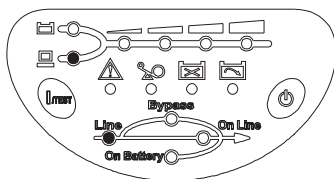

Fig 3-1 Stand-By Mode
- After that, the fan (in rear panel) will run and all LEDs will light for about 2-3 sec. Meanwhile the CPU inside the UPS setups the initial parameters. User also can check whether all LEDs are normal or not. The UPS is set in "STANDBY mode" initially, after a 'bee' is heard, the load LED lights on and the line LED shows AC utility status. Shown as fig 3-1.
The UPS will keep charging when UPS is in “STANDBY mode” even though the 0 button has been pressed. To fully turn off the UPS, it is advised to unplug the power cord. Refer to fig 3-1.